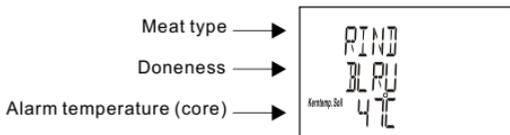

Fig.4 – Stand-by screen for regular cooking of very rare beef
- **Alarm in regular cooking:** The thermometer (i.e. transmitter and receiver) will alarm and the backlight will be on (alarm and flashing for 30 seconds) once the core temperature reaches the alarm temperature (in Fig.4, 47°C is the alarm temperature of very rare beef in regular cooking). Note: The thermometer will keep alarming (5 seconds) and the backlight will keep flashing (5 seconds) every minute.